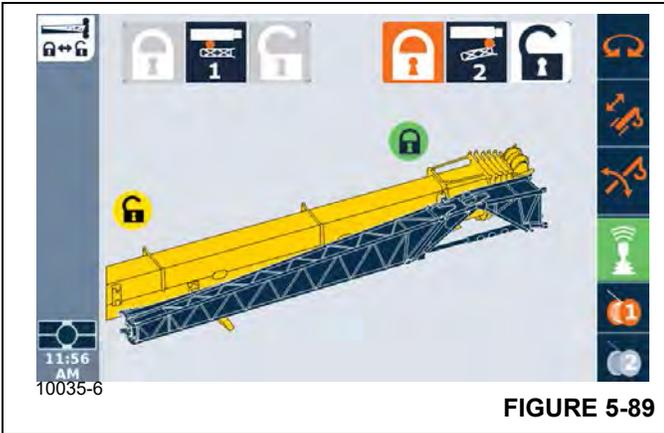

FIGURE 5-89
17. In the ODM (Figure 5-89), retract the front mounting pin (Pin #2) as follows: